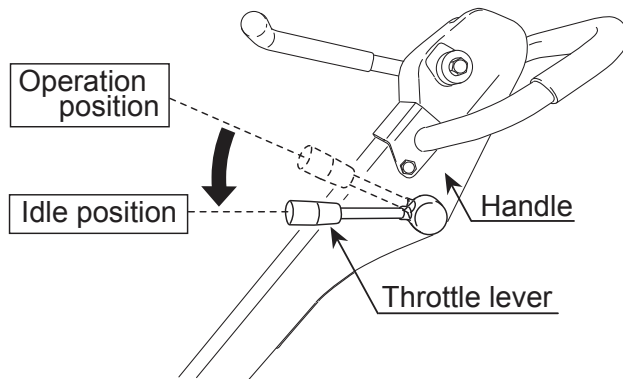

Figure 21. Throttle Lever (Idle)
1. Move the throttle lever to the *idle* position (Figure 21) and run the engine for three minutes at low speed.